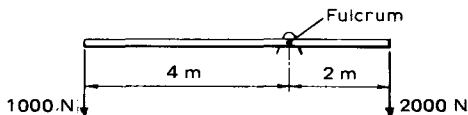

Fig. 2.39
**Reaction at the fulcrum.** The lever shown in Fig. 2.39 will not rotate since the anti-clockwise moment ( $4 \times 1000 = 4000 \text{ N m}$ ) equals the clockwise moment ( $2 \times 2000 = 4000 \text{ N m}$ ). But what stops the lever falling to the ground? Of course the fulcrum pin and bracket prevent this. Therefore the fulcrum pin must support the total load ( $1000 + 2000 = 3000 \text{ N}$ ) on the lever. This load on the pin of  $3000 \text{ N}$  is known as the reaction at the pin. We can always find the reaction at the fulcrum of a lever if we remember that *the total upward forces equal the total downward forces*.